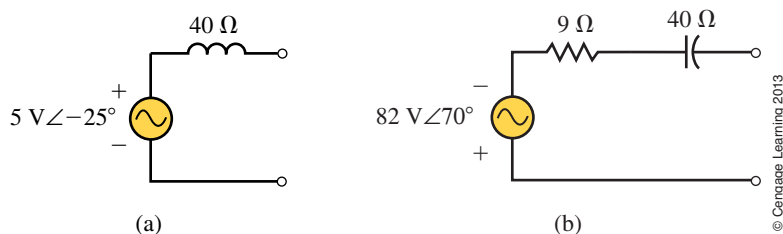

FIGURE 19–54
9. Refer to the circuit of Figure 19–55.